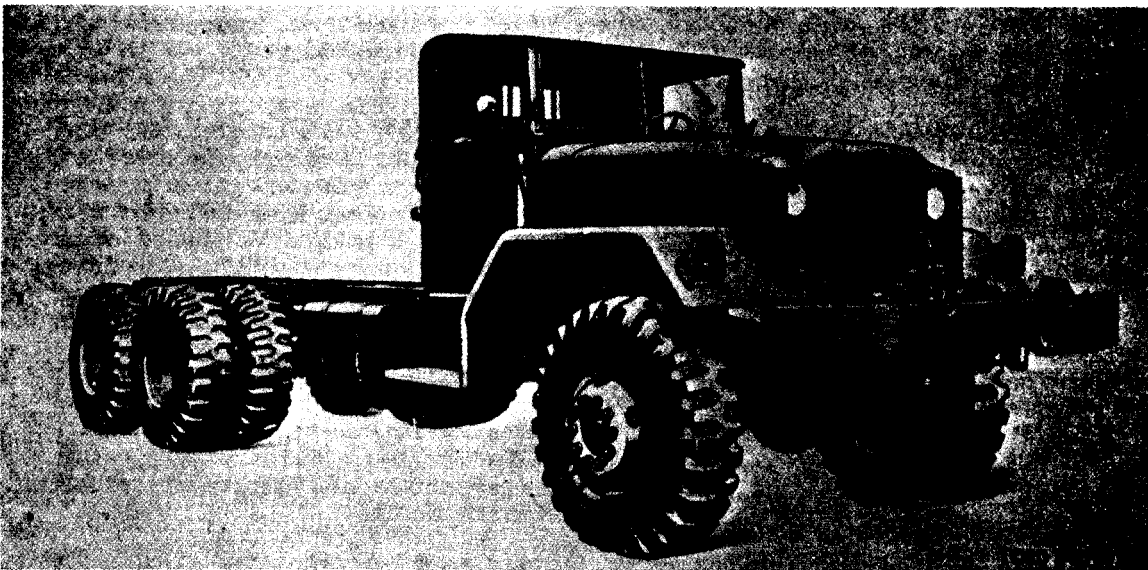

Figure 1. Truck, chassis, M39, M40, M61, M63, M139, - right front view
b. Models Covered. This manual covers the 5-ton, 6 x 6, chassis trucks M39, M40, M40C, M61, M63, MI39, MI39C, MI39D, and MI39F; cargo trucks M41, M54, M54A1, M54A2, M55, and M55A2; dump truck MS, and M51 A2; tractor trucks M52, M52A1; tractor-wrecker truck M246; and medium wrecker trucks M62, M543 and M543A2 (fig. 1 through 19). These vehicles are six-wheel trucks equipped with one driving front axle, a driving forward rear axle and a driving rear-rear axle.
dium wrecker trucks M62, M543 and M543A2 (figs. 1 through 19). These vehicles are six-wheel trucks equipped with one driving front axle, a driving forward rear axle and a driving rear-rear axle.